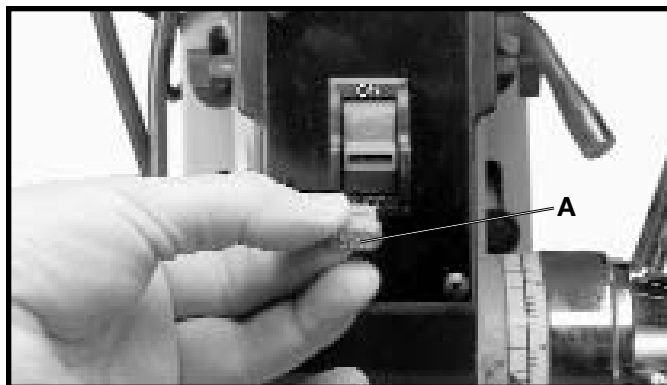

Fig. 18
When the tool is not in use, the switch should be locked in the “OFF” position to prevent unauthorized use of the tool. To lock the switch in the “OFF” position, grasp the switch toggle (A) and pull it out of the switch, as shown in Fig. 18. With the switch toggle (A) removed, the switch will not operate. However, should the switch toggle be removed while the drill press is operating, the switch can be turned “OFF” once, but cannot be restarted without inserting the switch toggle (A).